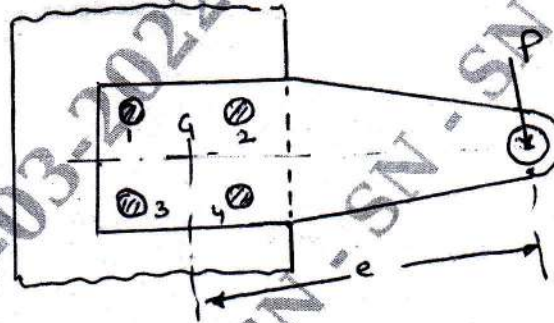

Fig.Q10(b)
- b. The structural connection shown in Fig.Q10(b) is subjected to an eccentric force  $P$  of 10 kN with an eccentricity of 500 mm from C.G. of the bolts. The centre distance between bolts 1 and 2 is 200 mm; and the centre distance between bolts 1 and 3 is 150 mm. All the bolts are identical. The bolts are made from the plain carbon steel with  $\sigma_y = 400 \text{ N/mm}^2$  and the factor of safety is 2.5. Determine the size of the bolts.